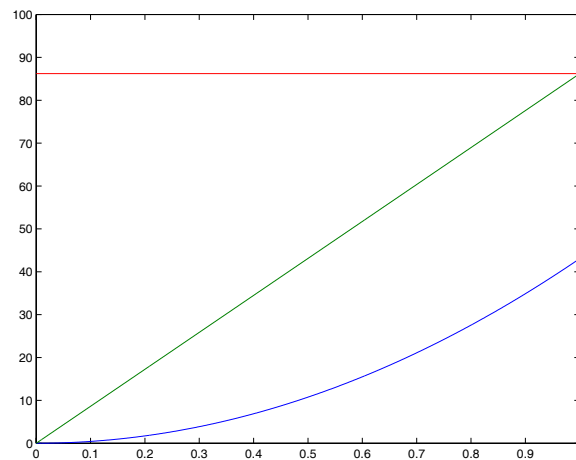

Figure 1.3: Step 1 Simulation Results
- Once the simulation is completed, double click on the scope box. To auto-scaling the axes, click the binoculars on the scope screen. Your scope results should look like Fig. 1.3.